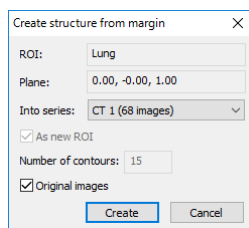

Figure 283 – Create structure from margin dialog
8. To create a new ROI from the generated margin, click the **Make new ROI...** button. The **Create structure from margin** dialog (see Figure 283) is then displayed in which you proceed as follows: